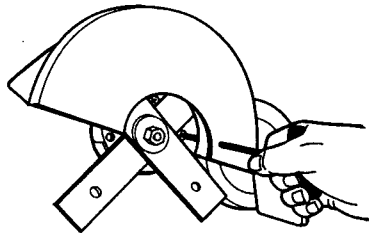

FIG 29A
1. Remove one screw and washer through hole in blade cover (Fig. 29A). Pull wheel arm assembly out of edger body.